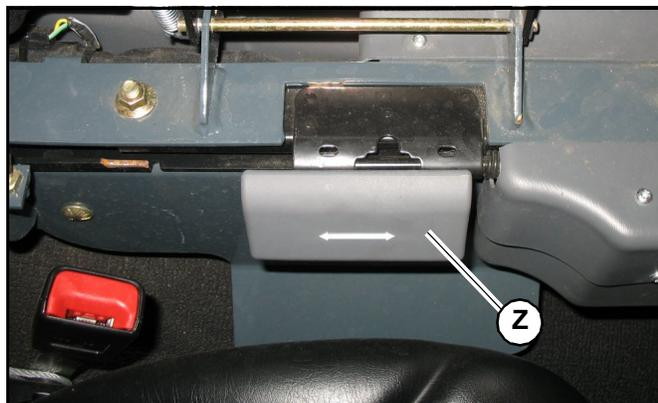

Fig. 29 – Armrest/Joystick Console Adjustment
To adjust armrest/joystick console position, lift slide lock (Z, Fig. 29) and slide armrest/joystick console to the desired position. Release slide lock (Z) to lock the armrest/joystick console in place.